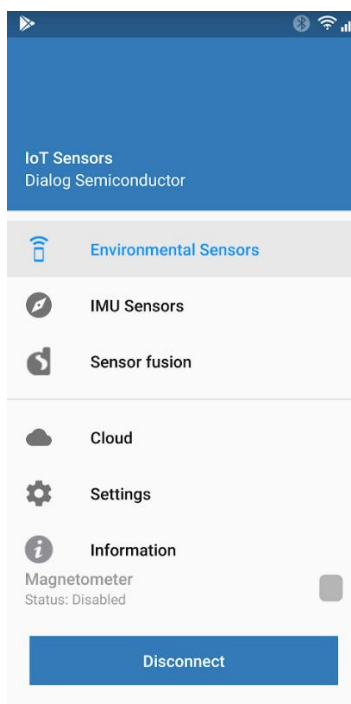

Figure 36: Menu Panel of Dialog IoT Sensors APP
2. Choose the menu at the top left corner, and the menu appears (Figure 36).